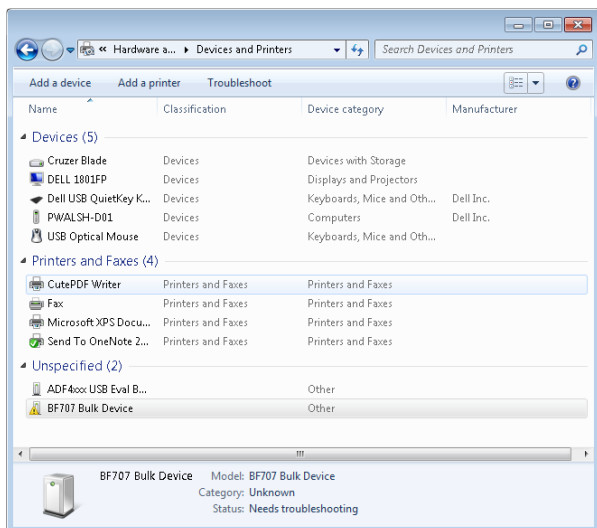

Figure 7. **Devices and Printers** Window
1. Find the device in the **Devices and Printers** window that is listed as **BF707 Bulk Device** (see Figure 7).